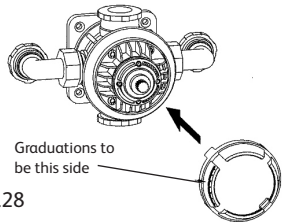

Fig.28
18. Snap the white location ring into position on the cartridge face noting that the graduations are located on the left hand side (Fig 28).